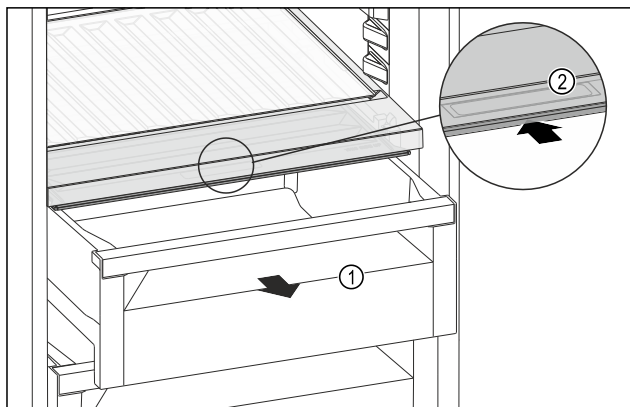

Fig. 110
- Pull out the drawer Fig. 110 (1).
- Grasp the recessed grip Fig. 110 (2) on the compartment lid and push the compartment lid backwards at the same time.